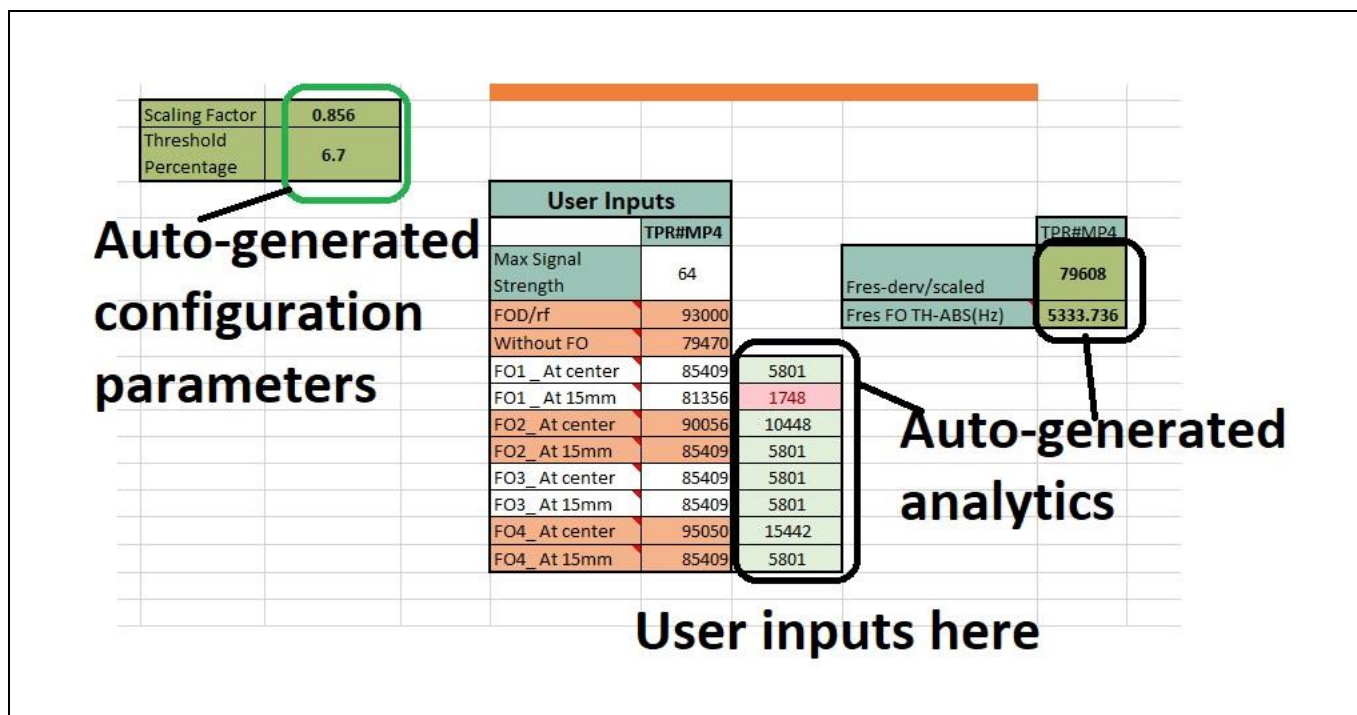

Figure 18 Reference view for resonance frequency measurements data
- Repeat steps 4, 5 and 6 for FO2, FO3 and FO4. Record the data in the respective FO rows (see Figure 18).